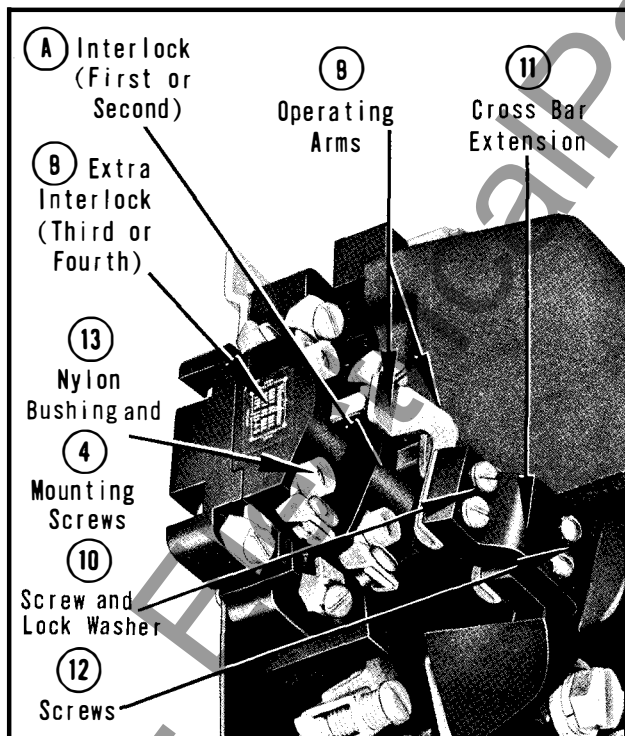

Fig. 4 - Mounting of Extra Universal Interlocks on Size 0 Life-Line Starter
2. Holding "first" or "second" Universal interlock in position, slip tabs of Extra interlock sub-base into slots of contactor base to align with screws (4). Tighten screws (4). This will secure both the "first" or "second" interlock and the Extra interlock to the contactor base. See Figs. 4 and 5.
3. Remove screws (10) holding "first" or "second" interlock operating arm and use these screws to mount the Extra interlock operating arm (9) to cross bar extension (11) from kit. Take screws (12) from kit and mount cross bar extension with Extra interlock operating arm attached, to contactor cross bar and "first" or "second" interlock operating arm as shown in Figs. 4 and 5.
"fourth" interlock and are mounted in the positions shown in Figs. 4 and 5.